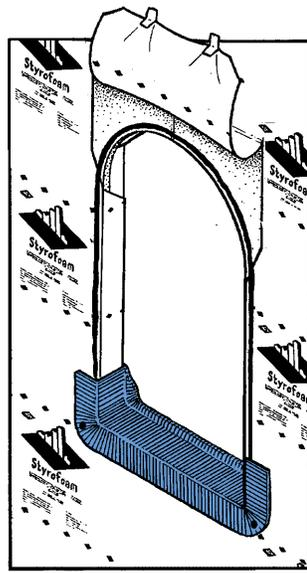

Figure 2
- e. Secure outer edges of flashing with plastic cap nails to hold in place (Figure 2).